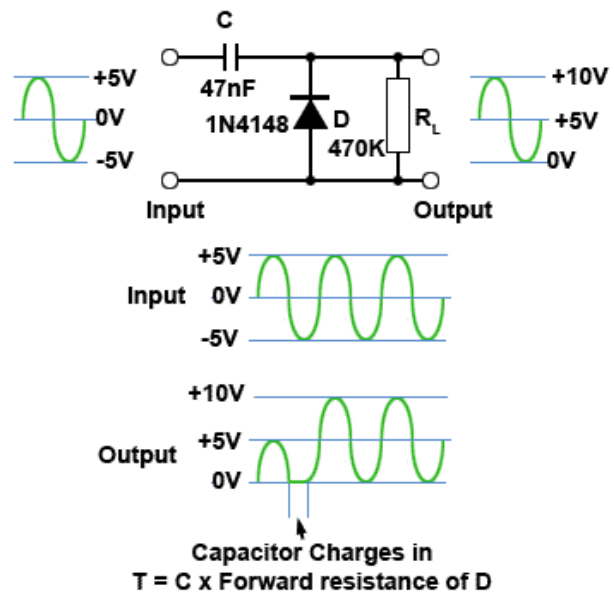
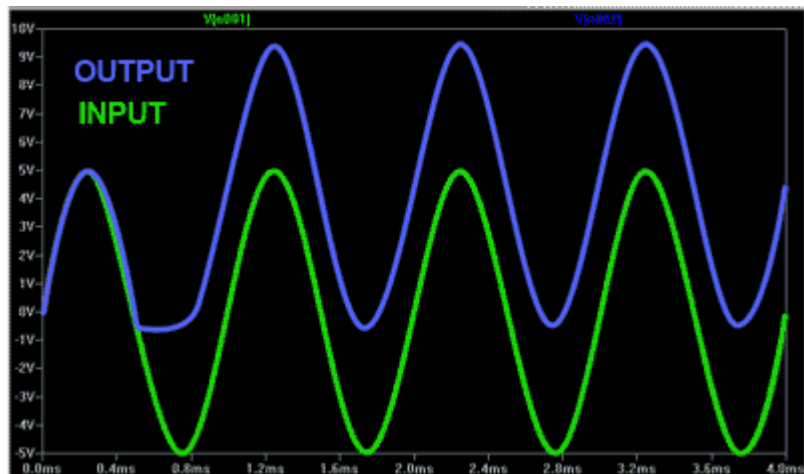

Figure 2.3.8. How Clamping Works
Figure 2.3.9. Spice Circuit Analysis of Fig 2.3.8
A simple DC restorer or clamp circuit is shown in Fig. 2.3.8 and consists of a capacitor and a diode. The resistor R_L represents the load on the circuit but also forms a time constant with the capacitor (C). The operation of the circuit is as follows:
For this reason the circuit is called a ‘Clamping Circuit’. The two time constants created by the diode in Fig. 2.3.8 switching on (short time constant) and off (long time constant) fulfil the necessary criteria to produce the shift in level of the output waveform that can be seen in the Spice analysis shown in Fig. 2.3.9